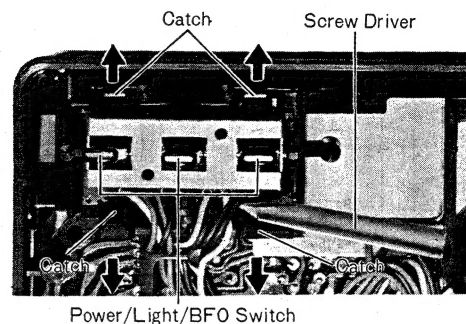

Fig. 13
2. Push the four (4) catches in the direction of arrow shown in fig. 13 and remove the switch.